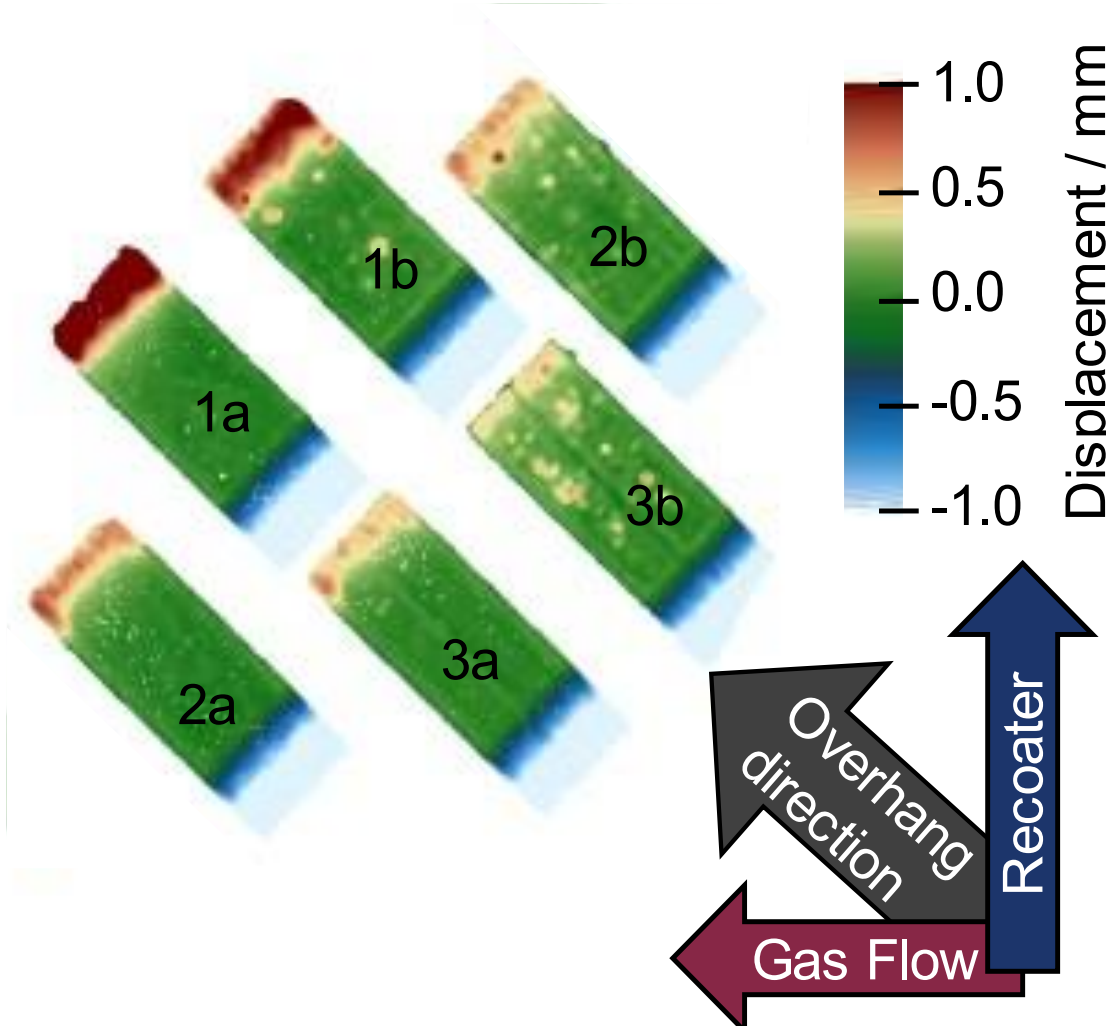
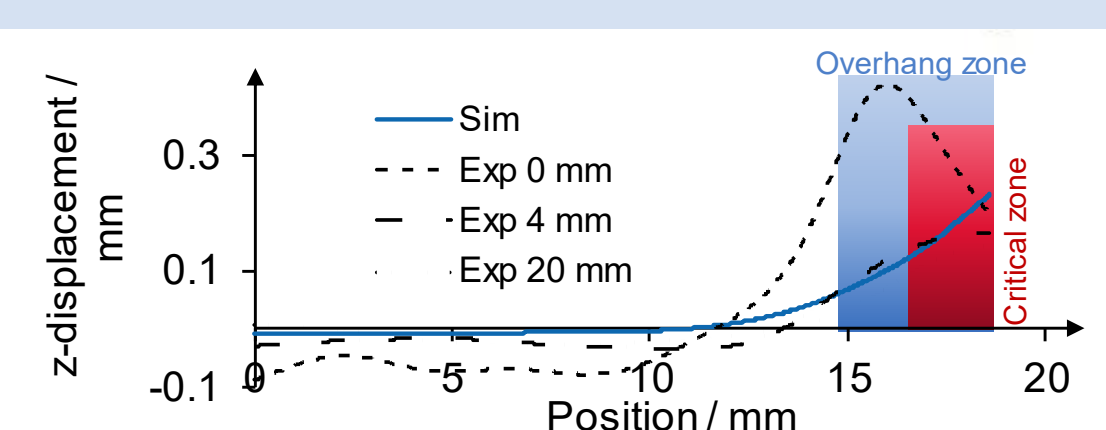
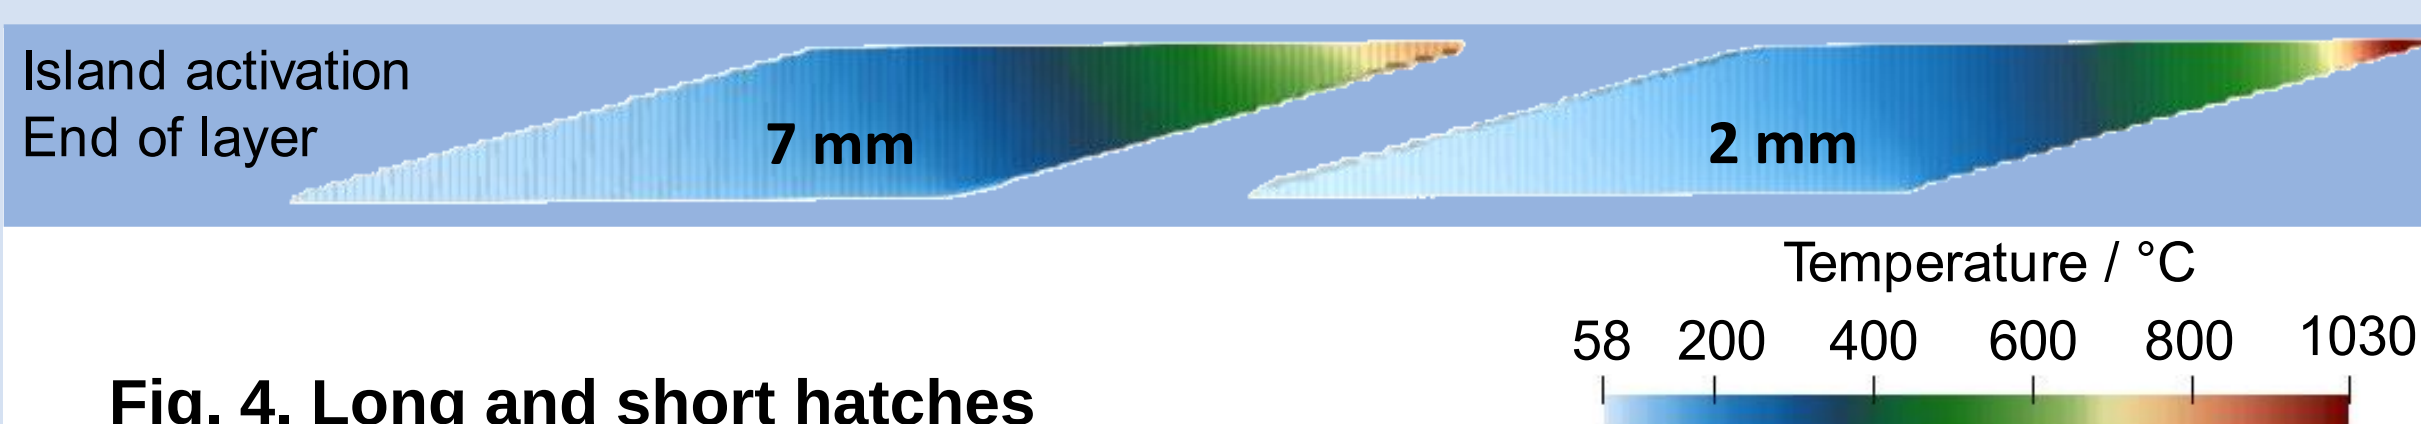

Fig. 2. Sequence (a) against gas flow and overhang (b) with gas flow towards overhang
Fig. 3. Overhang zone
Fig. 4. Long and short hatches
Sequence direction (Fig. 2), overhang zone depth (Fig. 3), and hatch length (Fig. 4).
2. Sequence Direction (Fig. 2)
3. Overhang Zone Depth (Fig. 3)
4. Hatch Length Impact (Fig. 4)
- Inherent strain simulation aligned with experimental displacement trends. (Fig. 3)
- Thermal simulation confirmed **temperature rises with shorter hatch lengths**. (Fig. 4)